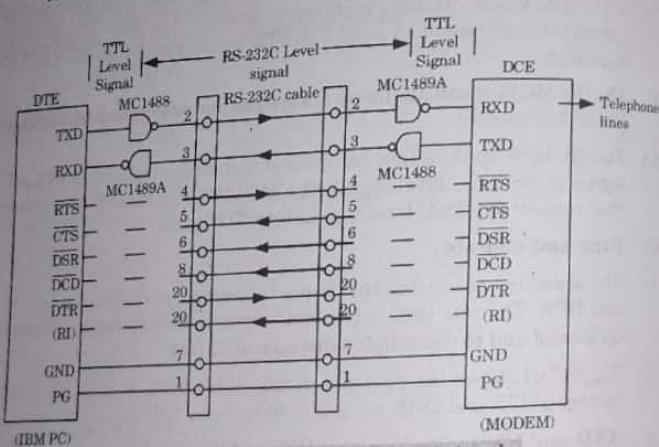

Fig. 5.24.1. The RS-232C pins and signals.
2. Fig. 5.24.1 shows the pins and signals of RS-232C and the connection between DTE and DCE using line drivers and receivers.